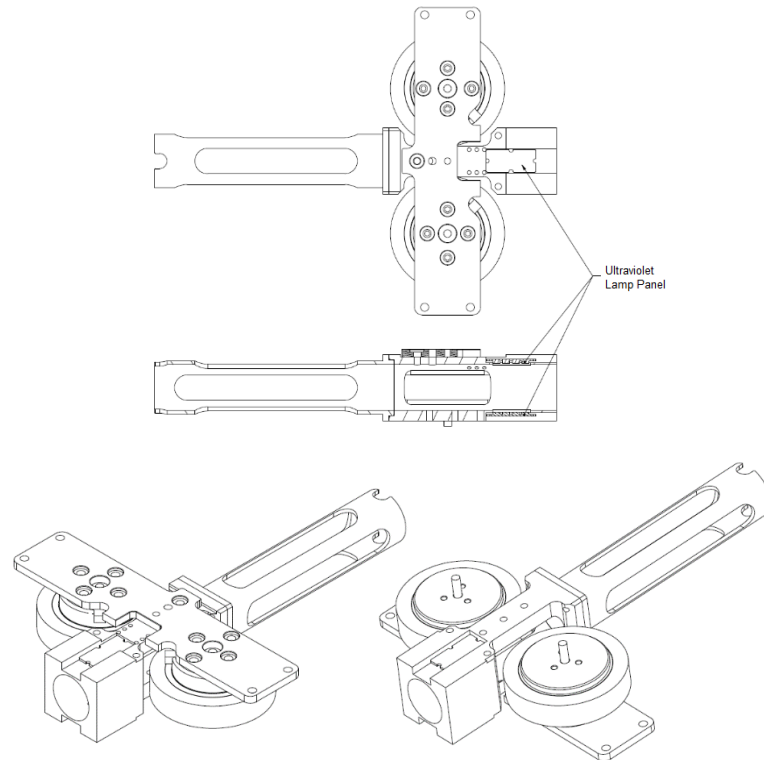

Figure 3 Ultraviolet Lamp Panel Installation Diagram
2. When assuring the lamp panel is working properly, mill a slot on each side of the pipeline at a 17 mm projectile's vertical distance from the shaft center connecting line of the friction wheel as shown in Figure 3 to install panels.